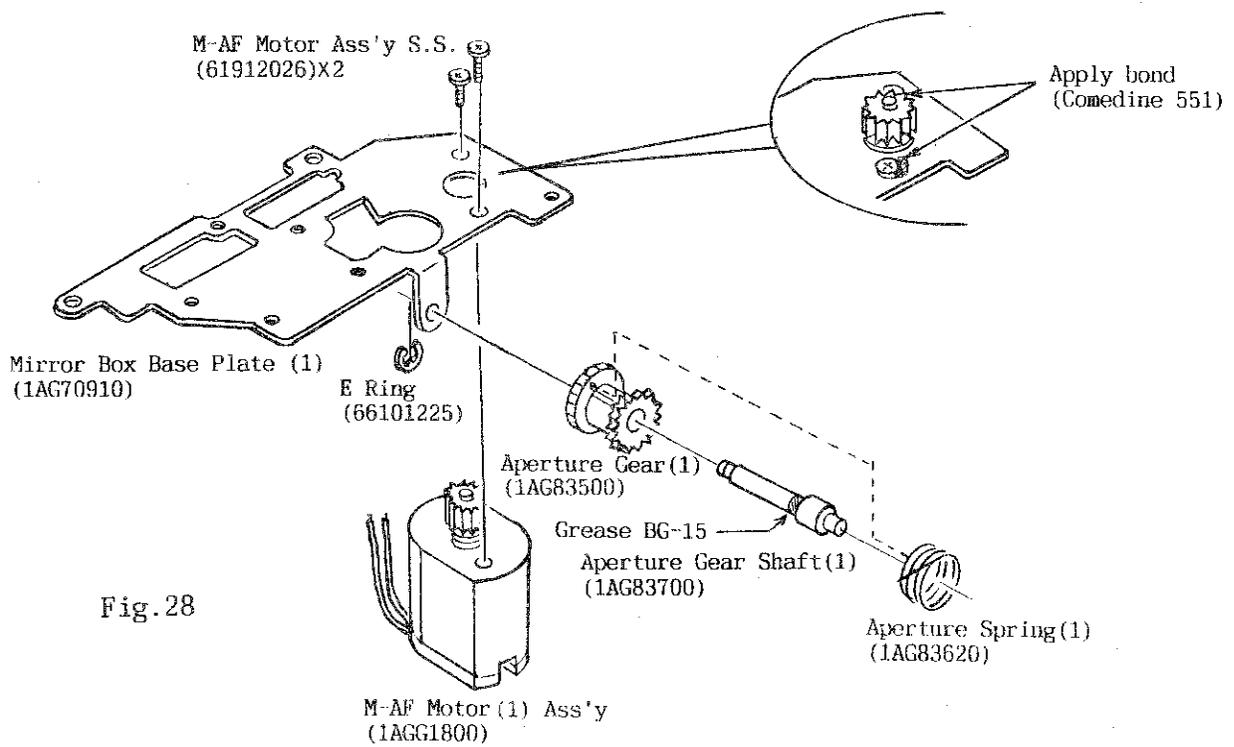

Fig.28
a) Make sure that the Aperture Spring (1) (1AG83620) is inserted in the hole of the Aperture Gear (1) (1AG83500). After that, with the Aperture Spring (1) in the position as shown in Fig.28, install the M - Box Base Plate (1) with the M - AF Motor (1) in the Mirror Box.